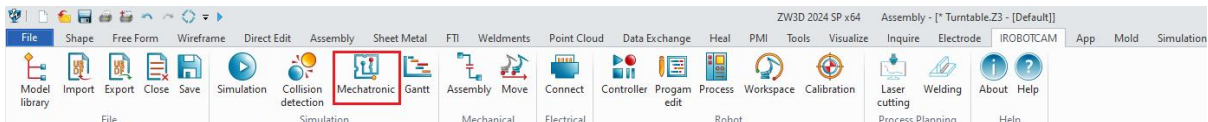

Figure 13-21: Mechatronic
- Click the "Mechatronic" button.(Figure 13-21)